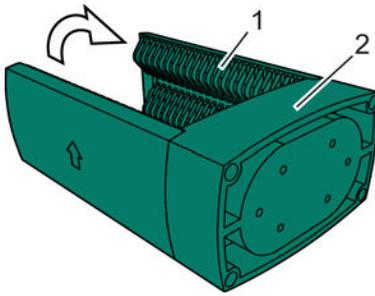

Fig. 118: Setting the machine housing upright
4. → Set the machine housing upright on the side walls (Fig. 118/1) with the assistance of a second person and place it onto the base (Fig. 118/2).